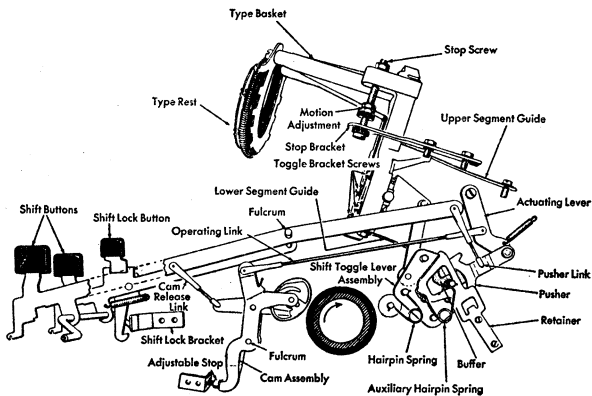

Figure 26. Shift Mechanism
1. **EVEN TOP AND BOTTOM.** Turn the shift stop screws until even printing on the top and bottom for the majority of the lower case characters is obtained. The heads of these screws should rest with equal pressure on the left and right stop washer (Figure 26).
2. **MOTION** is adjusted by moving the lock nuts on each stop screw so that the upper case characters print on the same line as the lower case. The lock nuts should rest on the upper stop washers with equal pressure (Figure 26).
4. **CAM RELEASE LINK.** Adjust this so that the cam will be released when the key lever is depressed $1/2$ to $3/4$ of its total travel (Figure 26).
5. **EQUAL PIN CLEARANCE** is obtained by turning the toggle bracket screws (Figure 26). Loosening the two upper screws and tightening the two lower screws will increase the clearance between the upper pin and the pusher, and vice versa. Be sure to make the same adjustments on each set of toggle bracket screws, to prevent any binding of the